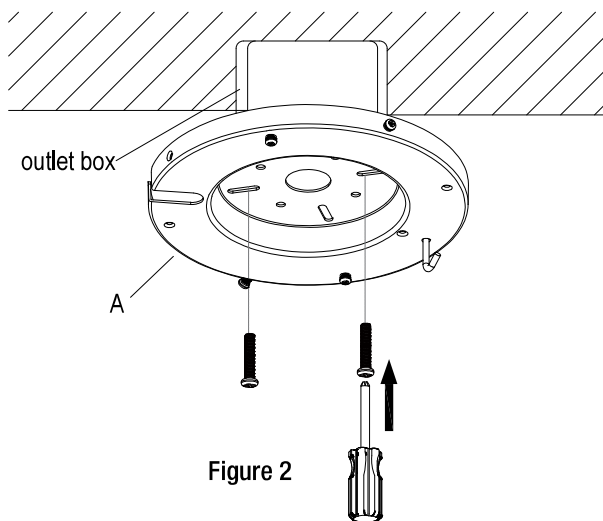

Figure 2
- Attach the mounting plate (A) to the outlet box (not included) with two screws (not included) provided with the outlet box. Ensure the mounting plate(A) is tight and secured. Figure 2.